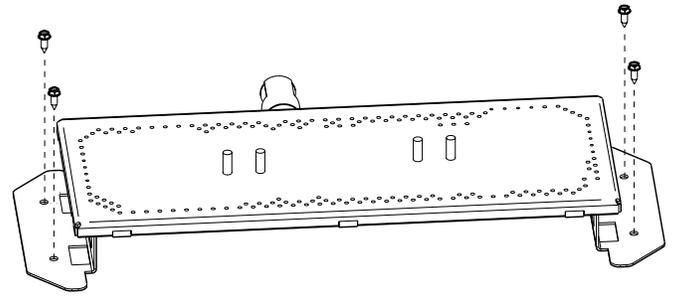

Figure 22. Remove four sheet metal screws to lift burner out of the firebox.
7. **Lift out the Burner Plate** with removal of four screws from the firebox floor. See fig. 22.